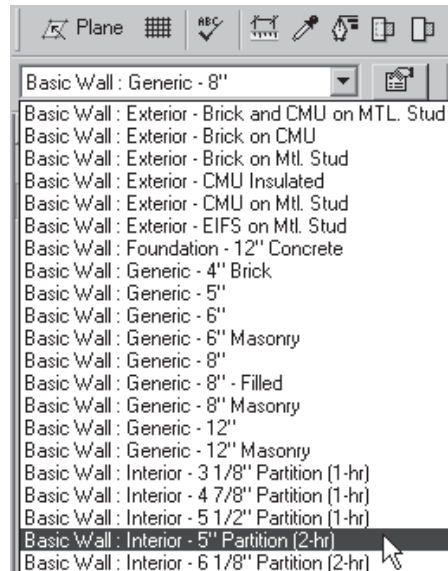

Figure 3-51 Selecting the **Basic Wall : Interior-5"Partition (2hr)** wall type
- b. Invoke the **Wall** tool and select the **Basic Wall: Interior - 5" Partition (2-hr)**, refer to Figure 3-51.
1. Click on the **Type Selector Bar** to display the types of walls available in Autodesk Revit Architecture. Select **Basic Wall: Interior - 5" Partition (2 hr)**, as shown in Figure 3-51.